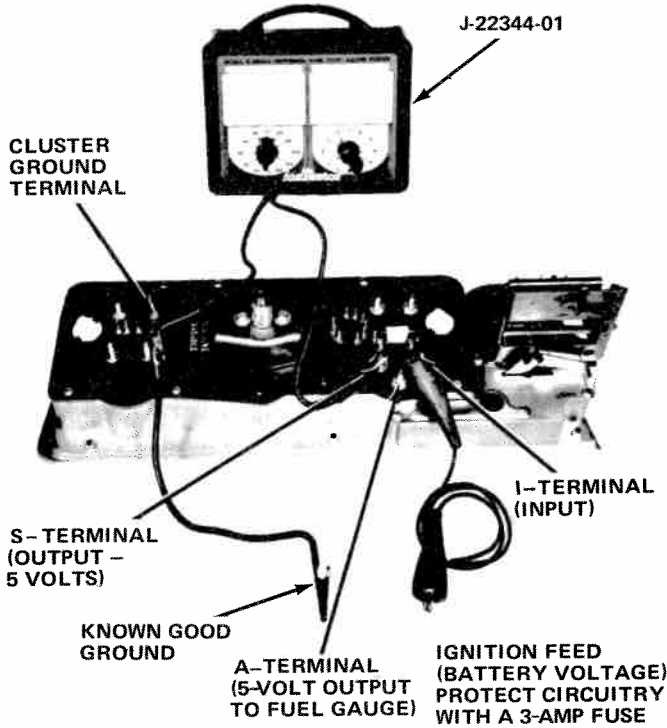

Fig. 3-61 Testing Temperature Gauge - Cherokee, Wagoneer, and Truck
(1) Disconnect battery negative cable.
(2) Remove instrument cluster and disconnect all electrical connections.
(3) Connect a jumper wire from cluster ground terminal to known good ground (fig. 3-61).
TEST RESULTS With Tester Connected as Shown in Figure 3-61	POSSIBLE LOCATION OF TROUBLE